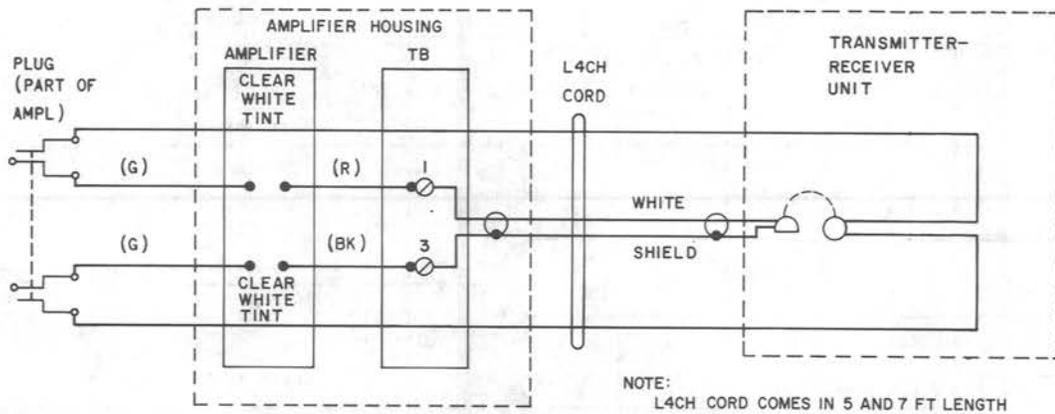

Fig. 8—280A-50 Amplifier Connecting Diagram
- (1) With the 3-inch C screwdriver, remove the two housing screws; lift off cover assembly.
- (2) Using the KS-2348 and the KS-6854 screwdrivers, remove terminal screw and remove the L4CH cord from the amplifier.
- (3) With the new amplifier, connect the cord as shown in Fig. 8 and assemble the parts in the reverse order of disassembly.
- (4) Dress the leads as originally positioned.
- (1) With the 3-inch C screwdriver, remove the two housing screws and lift off cover assembly.
- (2) Remove the lead and cord terminals connected to the profiling assembly using the KS-2348 and KS-6854 screwdrivers.
- (3) Remove profiling assembly.
- (4) Position the new profiling assembly in the shell half and reassemble the parts in reverse order of disassembly, connecting the lead and cord terminals as shown in Fig. 8.
- (4) Position the new printed wiring board and the terminal board assembly.
- (5) Connect the lead as shown in Fig. 8.
- (6) Assemble parts in reverse order of disassembly.
- (7) Dress leads as originally positioned.